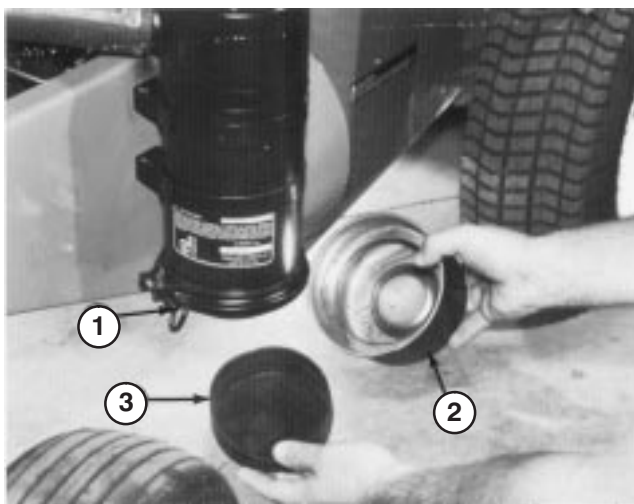

Figure 33
1. Loosen thumb screw until dust cup and baffle can be removed (Fig. 33). Separate dust cup and baffle (Fig. 33).